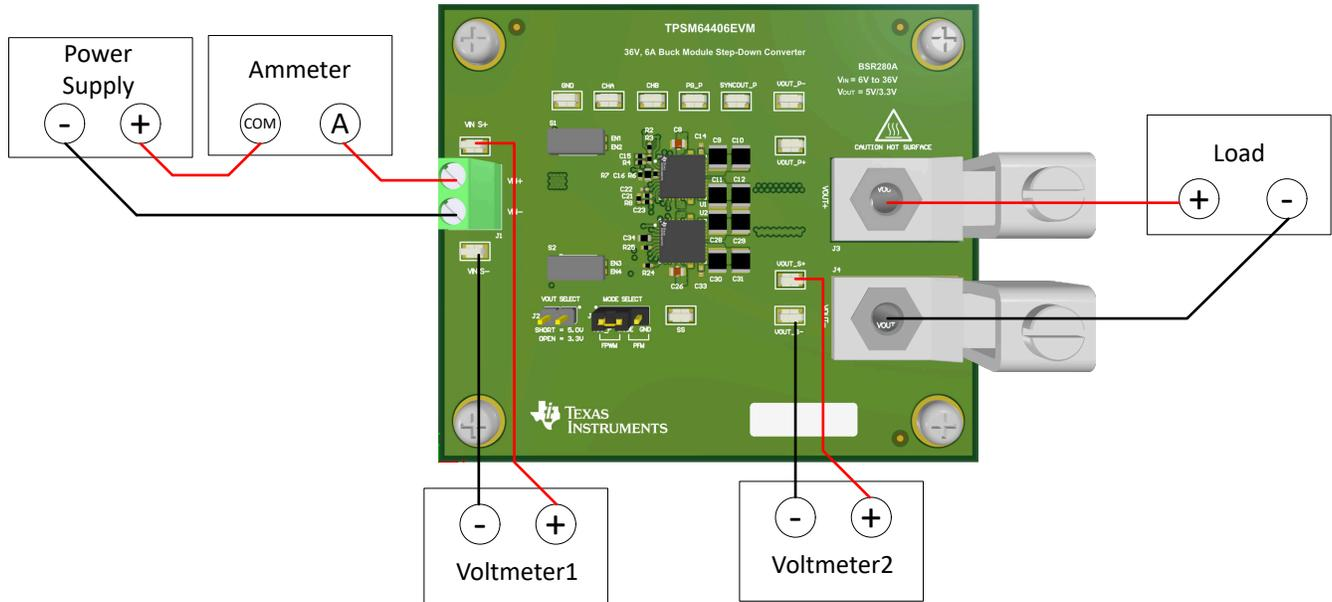

Figure 2-1. EVM Test Setup
- Prior to connecting the power supply, set the current limit of the power supply to 0.3A maximum and make sure the initial output voltage is set to 0V. Connect to the VIN- and the ammeter1 as shown in Figure 2-1.
- Connect load to the VOUT+ and VOUT– connections as shown in Figure 2-1. Set the load to constant-resistance mode or constant-current mode at 0A before applying input voltage.